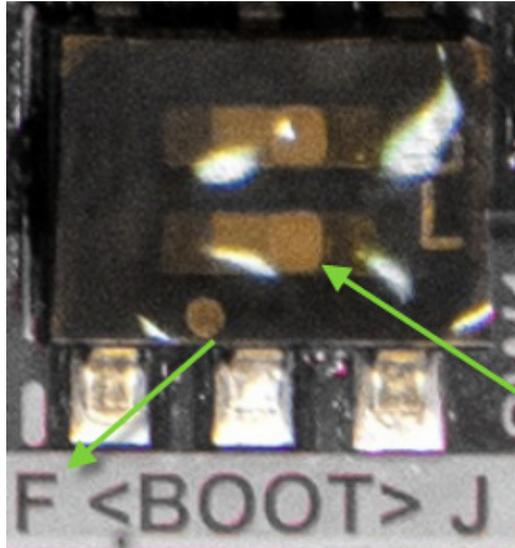

Figure 23 - Untouched Boot Switch
- a. Note: From the Factory the switch's protective film should be removed and already set to F. If it is not, the switch will look similar to Figure 23.